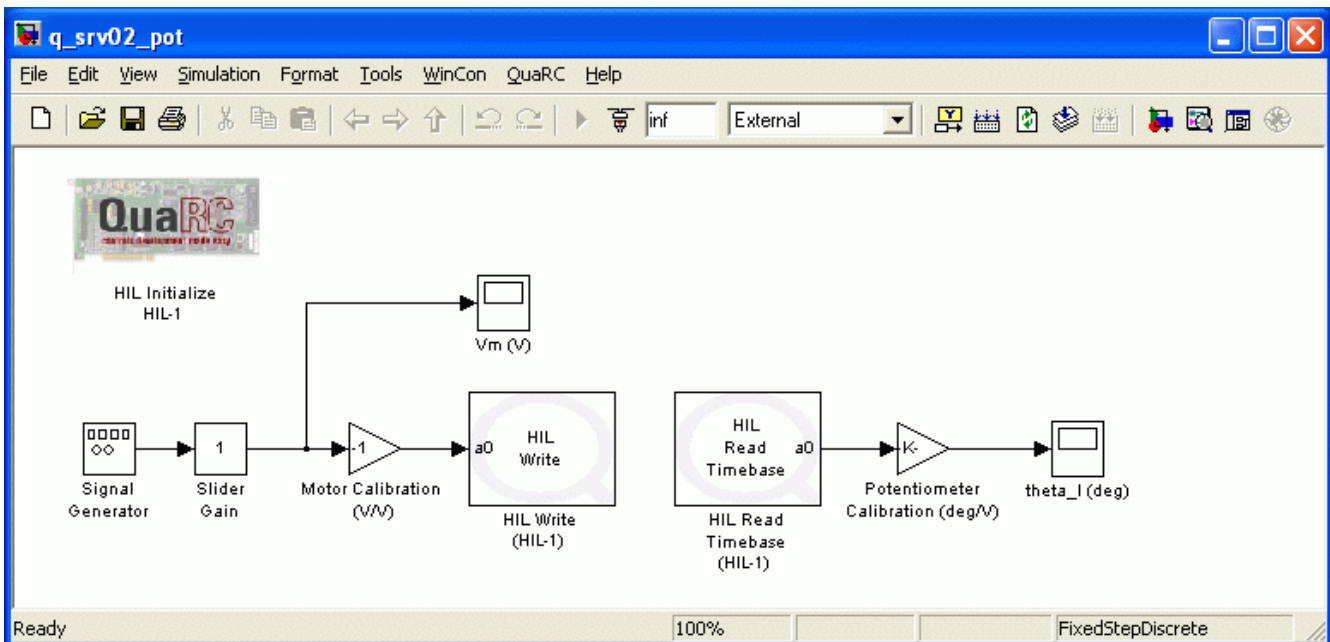
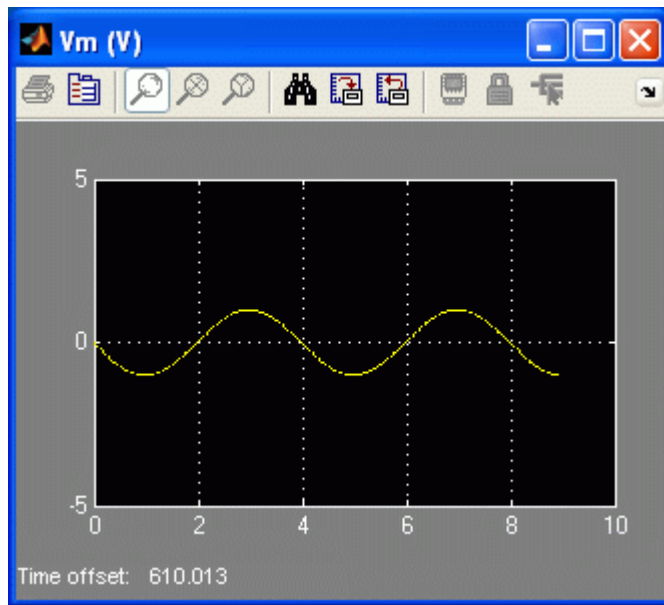

Figure 6: Simulink model used to send voltage to the SRV02 and obtain angular readings from the potentiometer.
Figure 7: Sinusoidal SRV02 input voltage.
The Simulink model will now be modified to read the load angle from the potentiometer and the voltage commanded to the motor, similarly as shown in Figure 6.
2. Add a Scope block from the *Simulink \ Sinks* folder in the Library Browser and connect it to the output of the Slider Gain block, as shown in Figure 6, above. Label the Scope block V_m (V) which stands for the input motor voltage.
4. Connect the Gain blocks as illustrated in Figure 6. Thus place one Gain block between the Slider Gain and the HIL Write Analog blocks and label it *Motor Calibration (V/V)*. Add the second Gain block between the HIL Read Timebase and θ_{l1} Scope blocks and denote it *Potentiometer Calibration (deg/V)*.
7. Open the V_m (V) and θ_{l1} (deg) scopes.
9. Set the Slider Gain block to 1. The input voltage signal in the V_m (V) scope should be as shown in Figure 7.